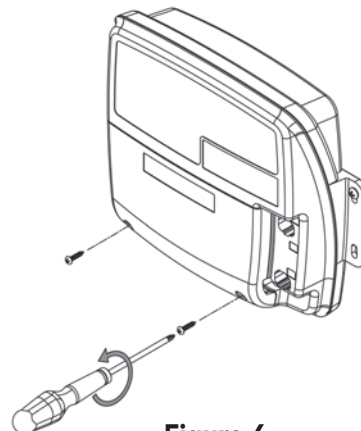

Figure 6
1. Using a Phillips-head screwdriver, remove the two cover screws from the front of the Audio@Home (**Figure 6**), and remove the cover from the unit.